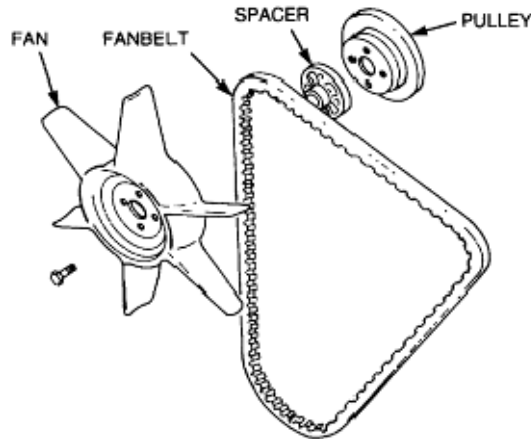

Figure 19 Fan, Spacer and Pulley
- f. Remove the fan, spacer and pulley (Figure 19).